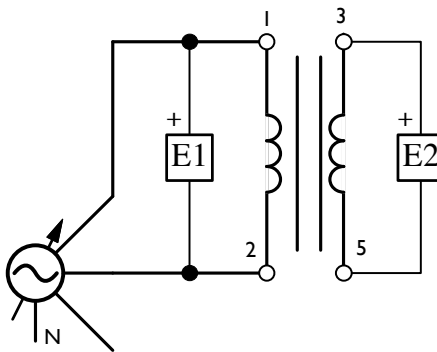

Figure 2.2: Single Phase Transformer
5. Construct the circuit shown in Figure 2.2. Note that E1 measures the input (primary side) voltage  $E_{1-2}$ , and E2 measures the corresponding output voltage  $E_{3-5}$  on the secondary side of a single-phase transformer.